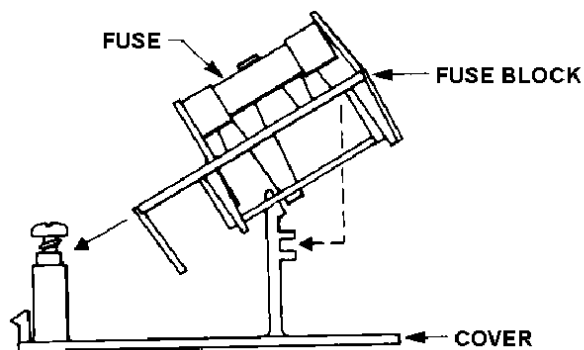

Figure 4. Removing the fuse block from the screw and pedestal.
7. Loosen the Phillips head screw on the fuse pedestal two turns. Remove the fuse block by sliding it up and away from the screw and pedestal, as shown in Figure 4.